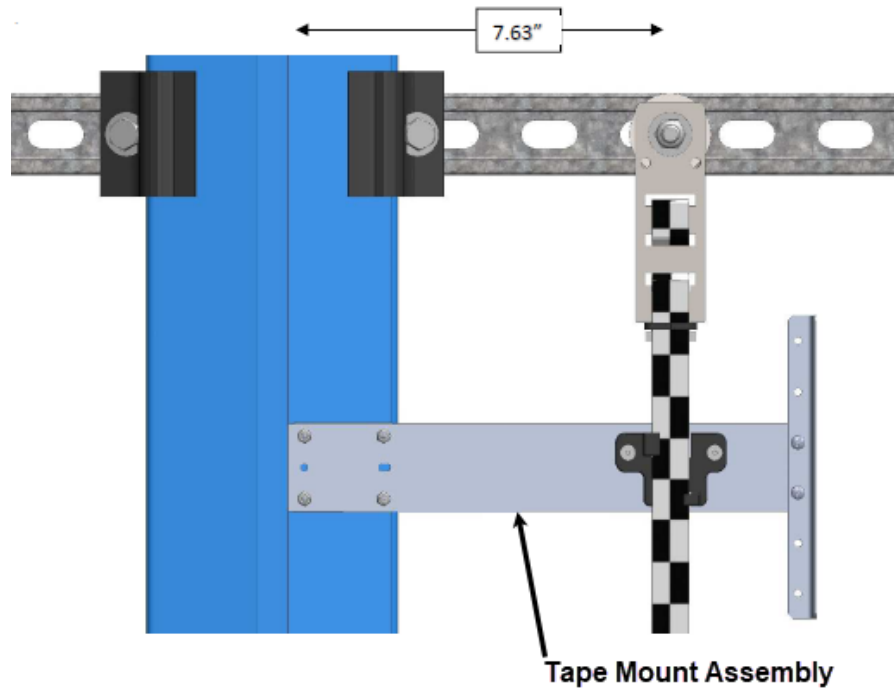

Figure 164: Upper Tape Unistrut Installation
3. Position the Upper Tape Mount assembly 7.63" from the wheel surface of the guide rail to the center of the 3/8" bolt (See Figure 164).